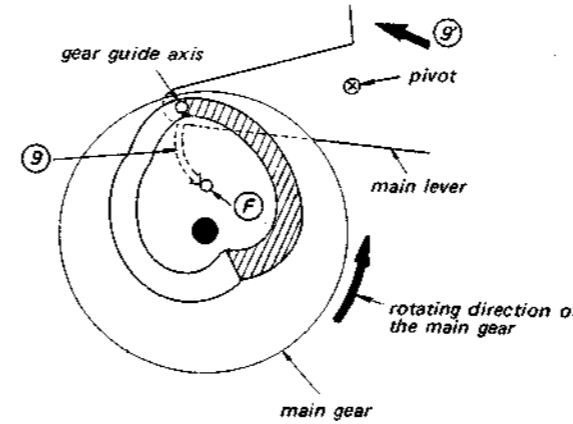

Fig. 1-7.
3. Once the revolving center gear engages the sub-gear (L), the main gear will commence to rotate in the counterclockwise direction due to the driving force supplied by the motor. It will stop again in the position shown in Fig. 1-7.
1. While the record is being played, the main gear and main lever are in the positions as shown in Fig. 1-7.
3. The gear guide axis at the tip of the main lever is moved across to position (F) by following the curved path (9) due to the guiding action
of the shaded portion of the groove in the heart-shaped cam positioned on the main gear. The main lever consequently moves across in the direction of the arrow (9) (see Fig. 1-7).